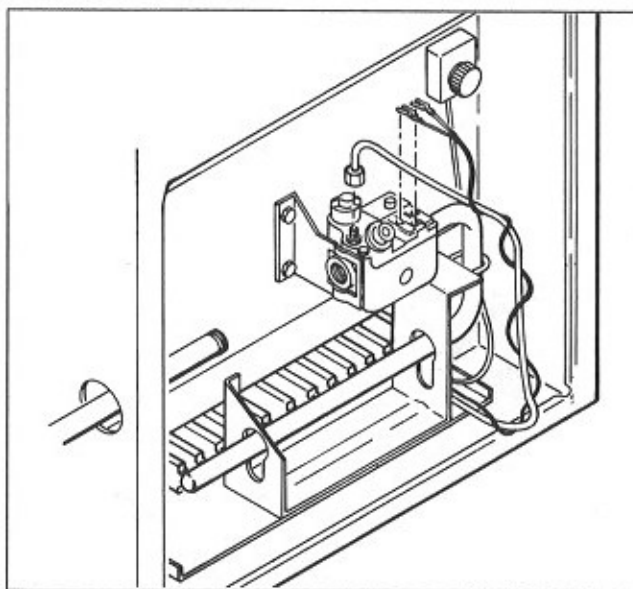

Figure 28. Gas Valve Removal
4C-5. Intermittent Operation (see Fig. 28)
3. Disconnect the main gas pipe from the gas valve (see Fig. 28).